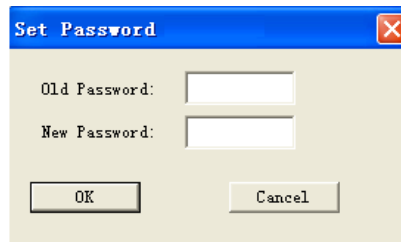

Fig. 7.10.11 Modify password
a. Click "Tools->transfer-> Password set" with left button of mouse, dialog box shown as Fig.7.10.11 appears: